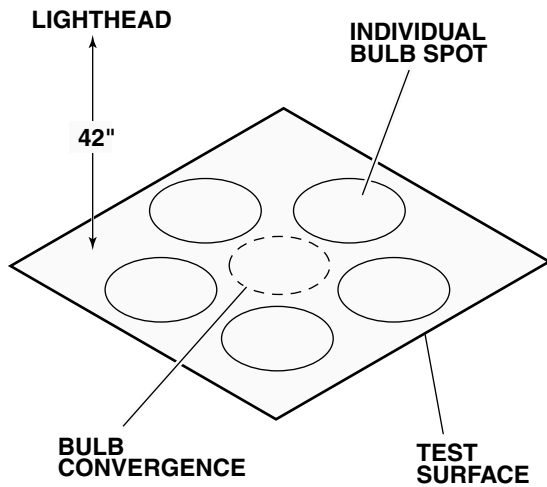

Figure 1-3.
- b. Position the lighthouse 42" from a white test surface. Turn main power "ON" and set intensity on low. Adjust focus control to widest pattern diameter so each bulb can be seen individually. See figure 1-3.